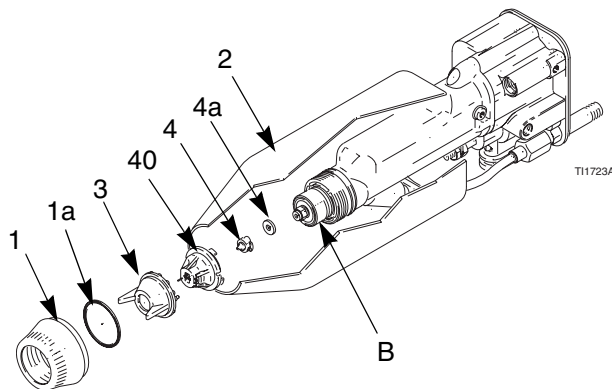

Fig. 23. Tip Guard, Air Cap, and Spray Tip Replacement
2. Remove the retaining ring (1), tip guard (3), air cap (40), spray tip (4), and shroud (2). You may have to turn the air cap with the tip guard to remove it. See FIG. 23..